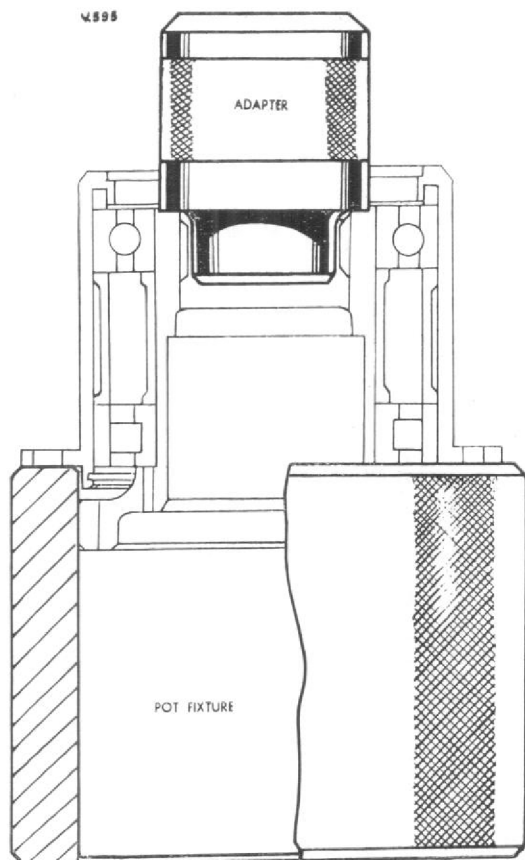

Fig. 9. Pot fixture T.77740 and adapter T.77741 for pressing the upper driving gear and inner roller race out of the housing.
2. Position the housing and gear assembly, gear downwards, in pot fixture T.77740; using adapter T.77741, Fig. 9, press the gear out of the housing complete with the inner roller race.